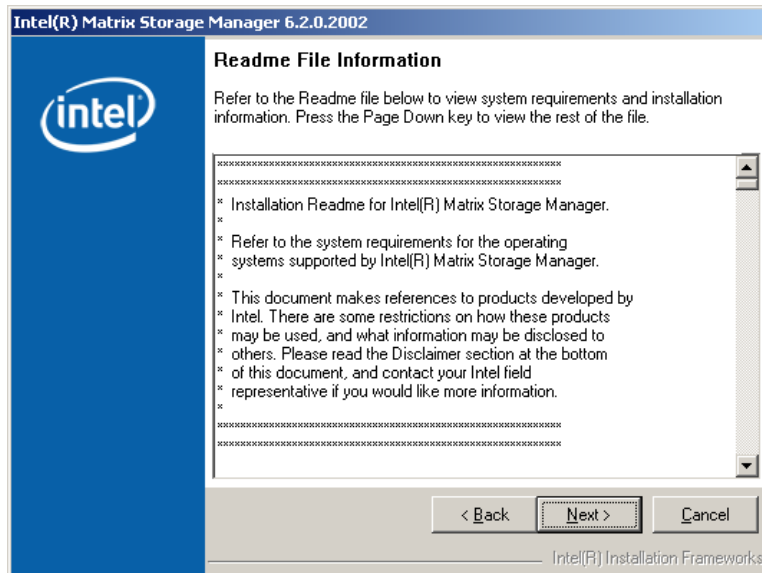

Figure 7-42: Matrix Storage Manager Readme File
Step 10: Read the license agreement. To accept the terms and conditions stipulated in the license agreement shown, click **YES** and the Readme information file shown in **Figure 7-42** appears.